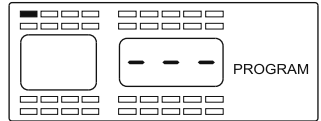

Figure 2-1
2. Press and hold the **PROG** button for approximately 5 seconds, the monitor screen will automatically change over to the program mode, and then you can release the button. When you have entered this mode the monitor will display all of the tire positions and the word “PROGRAM” will be displayed (see **Figure 2-1**). As you will see by **Figure 2-1** the monitor can be set up to display a motor home pulling a car or trailer, or a car / truck pulling a trailer.